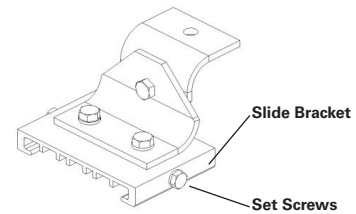

Figure 4. Swivel Mount Details
- Tighten the two (2) 1/4" set screws on each slide bracket until they bottom (see Figure 4). Torque to 78 in.-lbs. (8.8 N-m).
- Adjust the position of the fixture to the desired angle and tighten the two (2) 5/16" pivot bolts. Torque to 138 in.-lbs. (15.6 N-m).